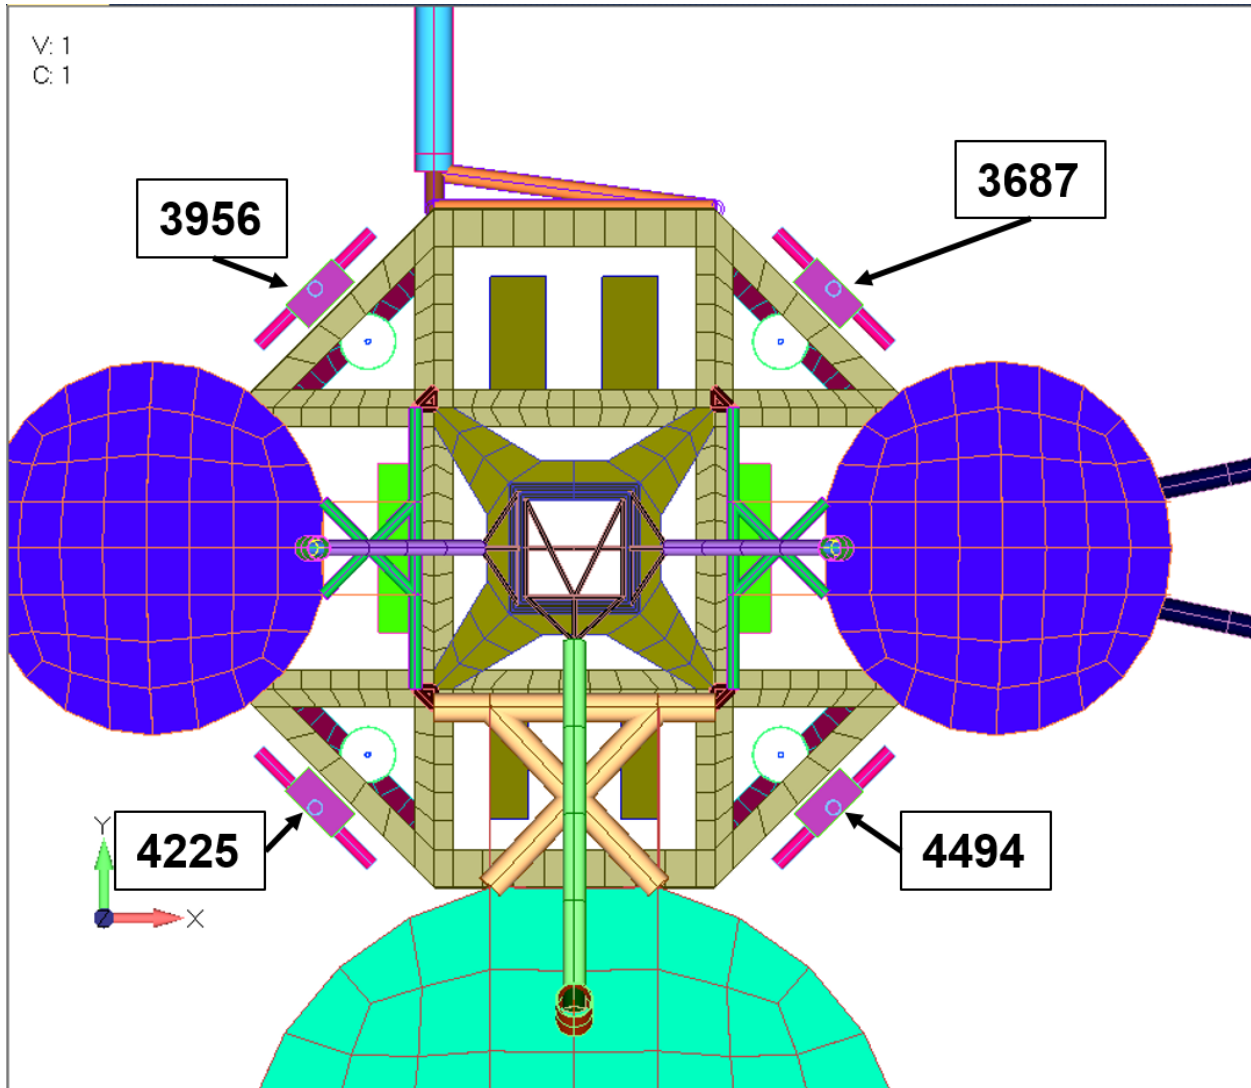
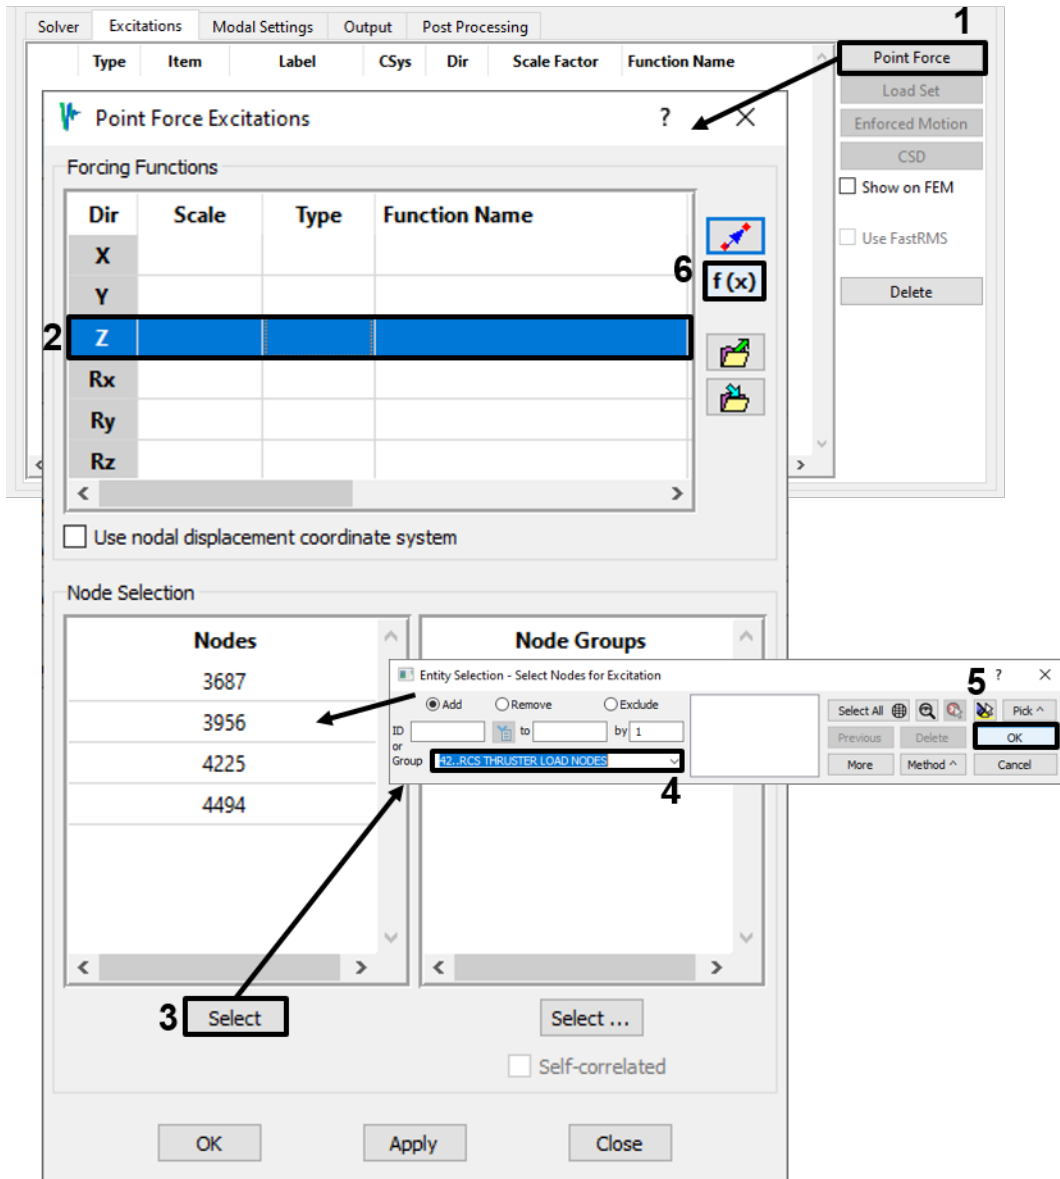

Figure 4-93. Nodes for RCS thruster loads.
Figure 4-94. Use the Point Force dialog to assign a Z-direction force to each thruster node.
- The RCS system will fire a pulse to translate the spacecraft along its Z-axis, let it drift for half a second, then fire a reverse pulse to stop its translation. We will simulate this by applying a point-force excitation at each RCS thruster node (Figure 4-93). On the Excitations tab, bring up the Point Force dialog (Figure 4-94). Select the individual thruster nodes as shown, highlight the Z-direction row in the Functions table, and click **f(x)** to bring up the Function Manager.